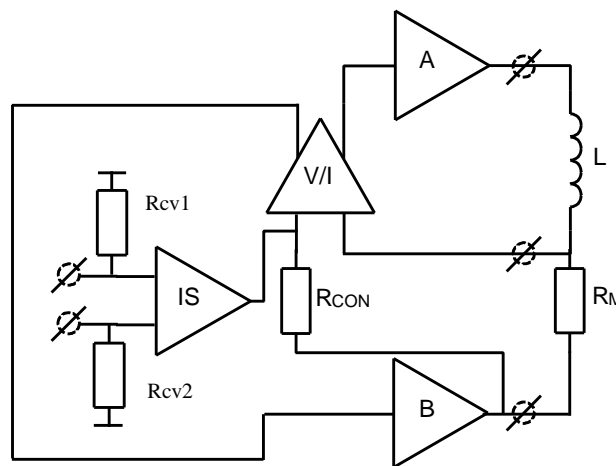

Fig 3: Simplified block diagram of the vertical circuit.
The TDA8359J is a DC coupled deflection output circuit, which has no bounce effect during channel switching and has an improved EMC immunity. This is achieved by using differential mode inputs. The deflection coil and the measuring resistor R_M are connected between the output amplifiers of the TDA8359J that are driven in opposite phase. See Fig 3.
Since the Input Stage (IS) is voltage driven, resistor R_{cv1} and R_{cv2} are used when the driver circuit delivers a differential output current (See Fig 3) such as the Ultimate One Chip. So, driver circuits which deliver an output voltage can also be used, in that case resistor R_{cv1} and R_{cv2} are not necessary.